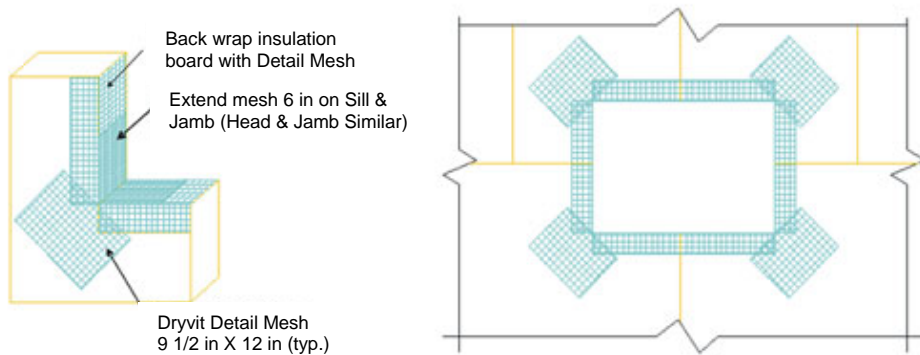

Figure 22
- a. At penetrations, align the insulation boards so that the edges (vertical and horizontal joints) do not coincide with the corners of the opening as illustrated in Figure 22.